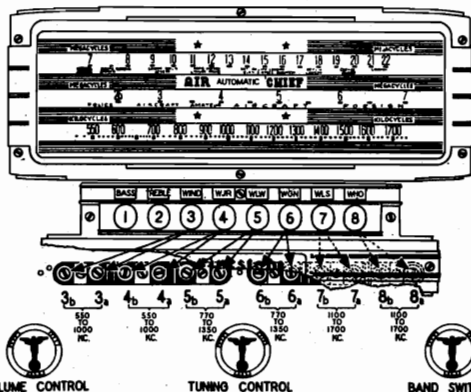

FIG. 1
3. Make a list of the frequencies of six nearby stations to which you wish to set up the buttons. Be sure to select nearby, powerful stations, since weak stations will generally give better results when tuned manually. Also BE SURE TO SELECT STATIONS FALLING WITHIN THE TUNING RANGE OF THE INDIVIDUAL BUTTONS, AS INDICATED IN FIG. 1.
Each of the buttons on your Push-Button Tuner has a definite range of frequencies to which it can be tuned as shown in Fig. 1. It is imperative that in setting up the buttons, you select stations whose frequency is in the indicated tuning range of that button. FAILURE TO SELECT THE PROPER BUTTON WILL RESULT IN THE INCORRECT SETTING OF THE TRIMMER ADJUSTING SCREW AND WILL ALSO CAUSE "DRIFTING". The correct frequencies of your local stations may be obtained from your newspaper of radio call magazine. For example, suppose you want to set a button to station WLW whose frequency is 700 Kilocycles. Refer to Fig. 1 which shows that this frequency falls within the operating range of buttons No. 3 or No. 4, whose range is 500 to 1000 KC. Therefore either button No. 3 or No. 4 can be used for the automatic tuning of WLW.
7. Now push in the third button from the left (No. 3 in Fig. 10). Using a small screw driver, insert it in the second screw from the left (No. 3a in Fig. 1). Rotate the screw SLOWLY until the program that you have previously tuned in manually is again tuned in. If it cannot be heard, advance the volume control. BE SURE THAT YOU ADJUST THIS PARTICULAR SCREW (3a) UNTIL THE INVERTED "V" SHADOW IN THE "TUNING EYE" IS NARROWEST. It is advisable that you turn the screw in and out so that you will tune across the station several times in order that you may be sure that you have located the correct tuning point.
8. Next insert the screw driver in the first screw on the left (No. 3b, Fig. 1) and turn it until the program is received with maximum volume. The correct position is indicated by the ends of the inverted "V" in the "Tuning Eye" being closest together. Now go back to screw No. 3a and see if any improvement in the reception can be made by adjusting it. Also repeat this adjustment for screw No. 3b.
2. By referring to Fig. 1, determine the dual trimmer associated with the button whose range you wish to change.